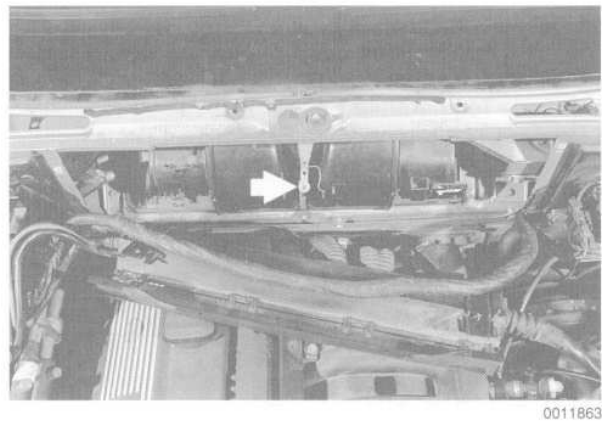

Fig. 2. Blower motor housing cover retaining strap (arrow).
5. Unhook blower motor housing cover retaining strap and remove cover. See Fig. 2.